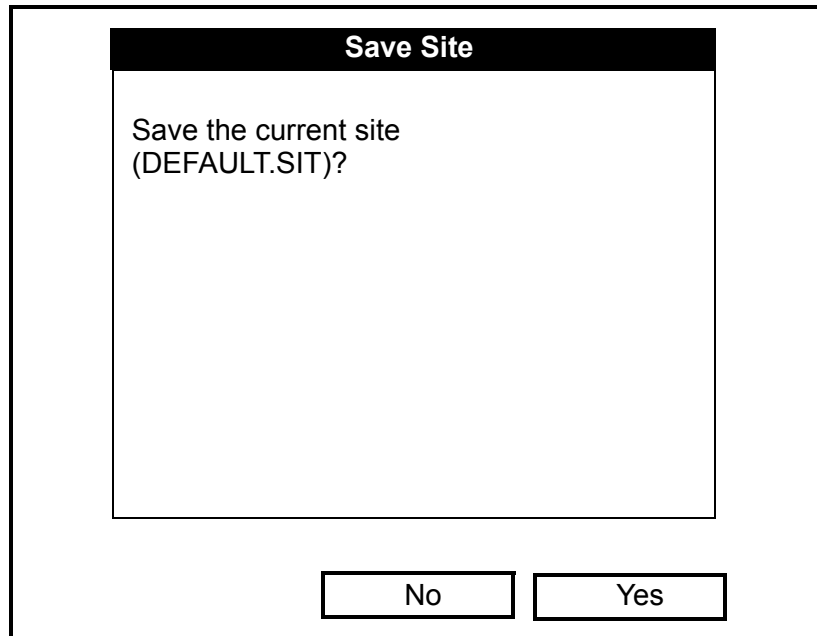

Figure 4-7: The Save Site Window
In either case, a window similar to Figure 4-7 below opens.
5. When you have finished, press [F3] (OK) to accept the name, or press [F2] (Cancel) to leave the window without creating a new site.
6. When the *Save Site* window (see Figure 4-7 on page 4-6) appears, press [F2] (No) to cancel saving the site, or press [F3] (Yes) to save the site with the new name.